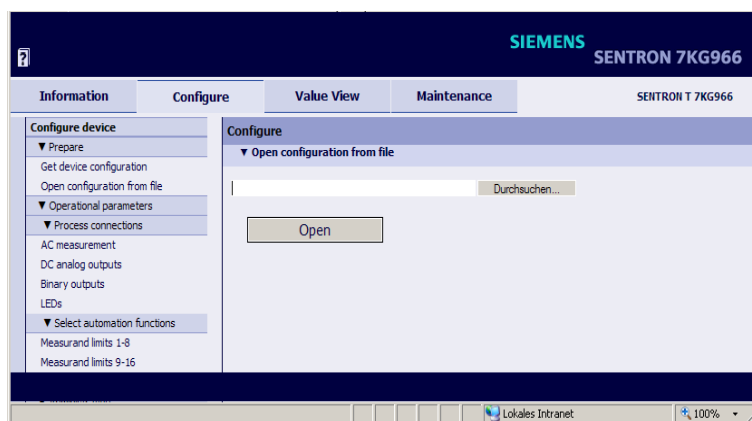

Fig. 7-12 Configure Tab, Open Configuration from File
- The selected path is inserted into the **Browse** field in the input/output window, figure 7-12.